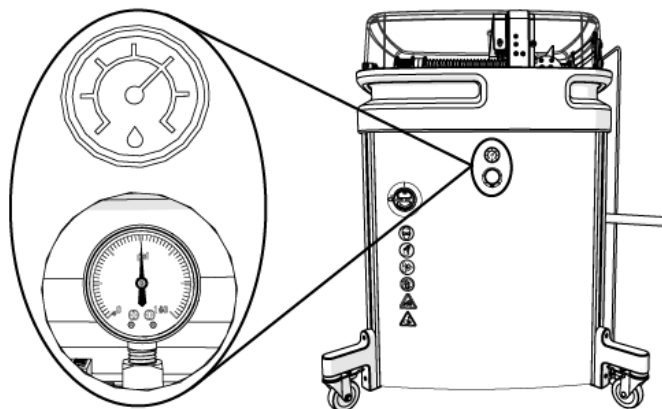

Figure 23
5. Record the incoming water pressure (Figure 23).